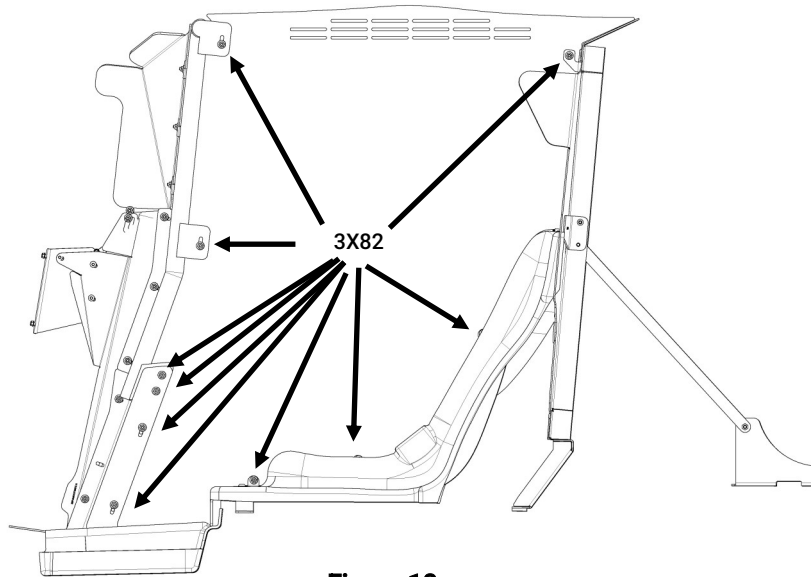

Figure 10
- H. Remove the (2) carriage bolts [3X82] that were installed in Section IX Step D/E.
- K. From the passenger side insert a carriage bolt [3X82] into the (10) holes around the divider (Fig. 10).